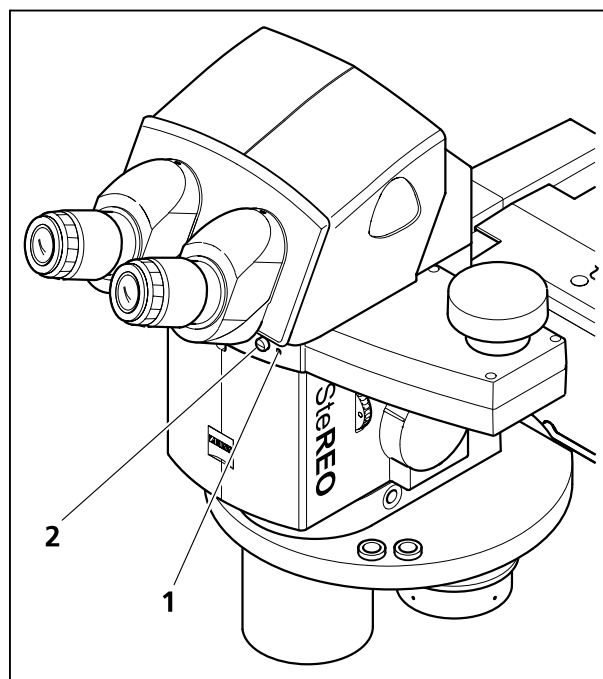

Fig. 47 Intermediate phototube S mot., right 100/100
- Change over the beam path between the camera port (doc) and the binocular tube by briefly pressing the button (Fig. 47/2). If the camera port is active, the blue LED (Fig. 47/1) in the front part of the intermediate phototube is lighting.